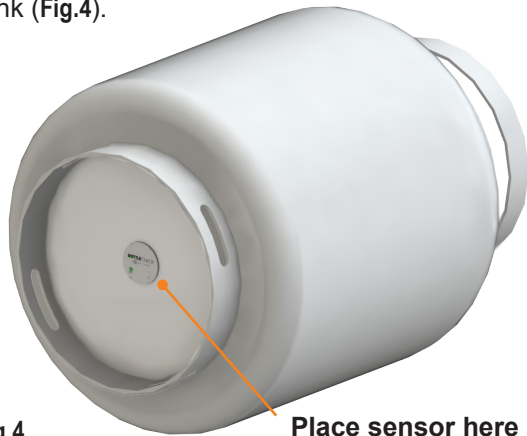

Fig.4 Place sensor here
- Place the magnetic sensor on underside of the tank in the center. Tank removal may or may not be necessary depending on accessibility to the bottom (underside) of the tank (Fig.4).